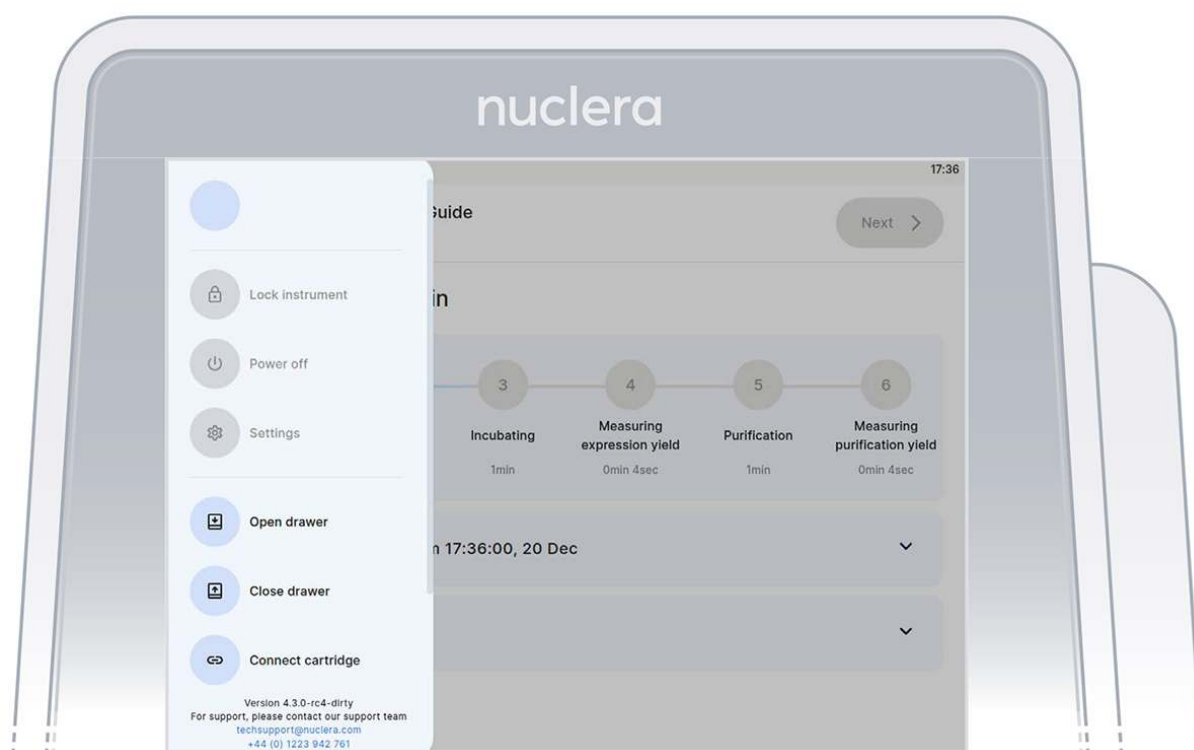

Figure 30: Remove the cartridge from the instrument
6. Power down the instrument after use by pressing the [Power off] button (Figure 30)